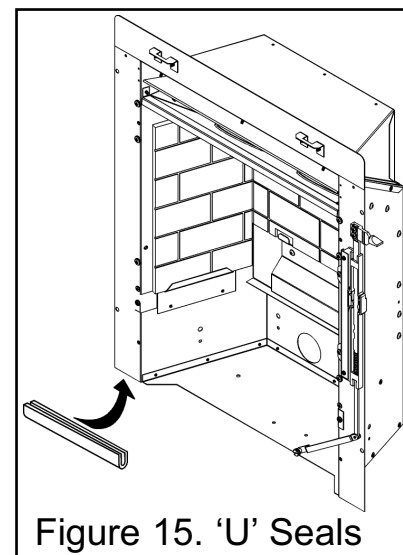

Figure 15. 'U' Seals
4. Fit the two “U” section seals to the bottom edges of the convection box side flanges (See figure 15).